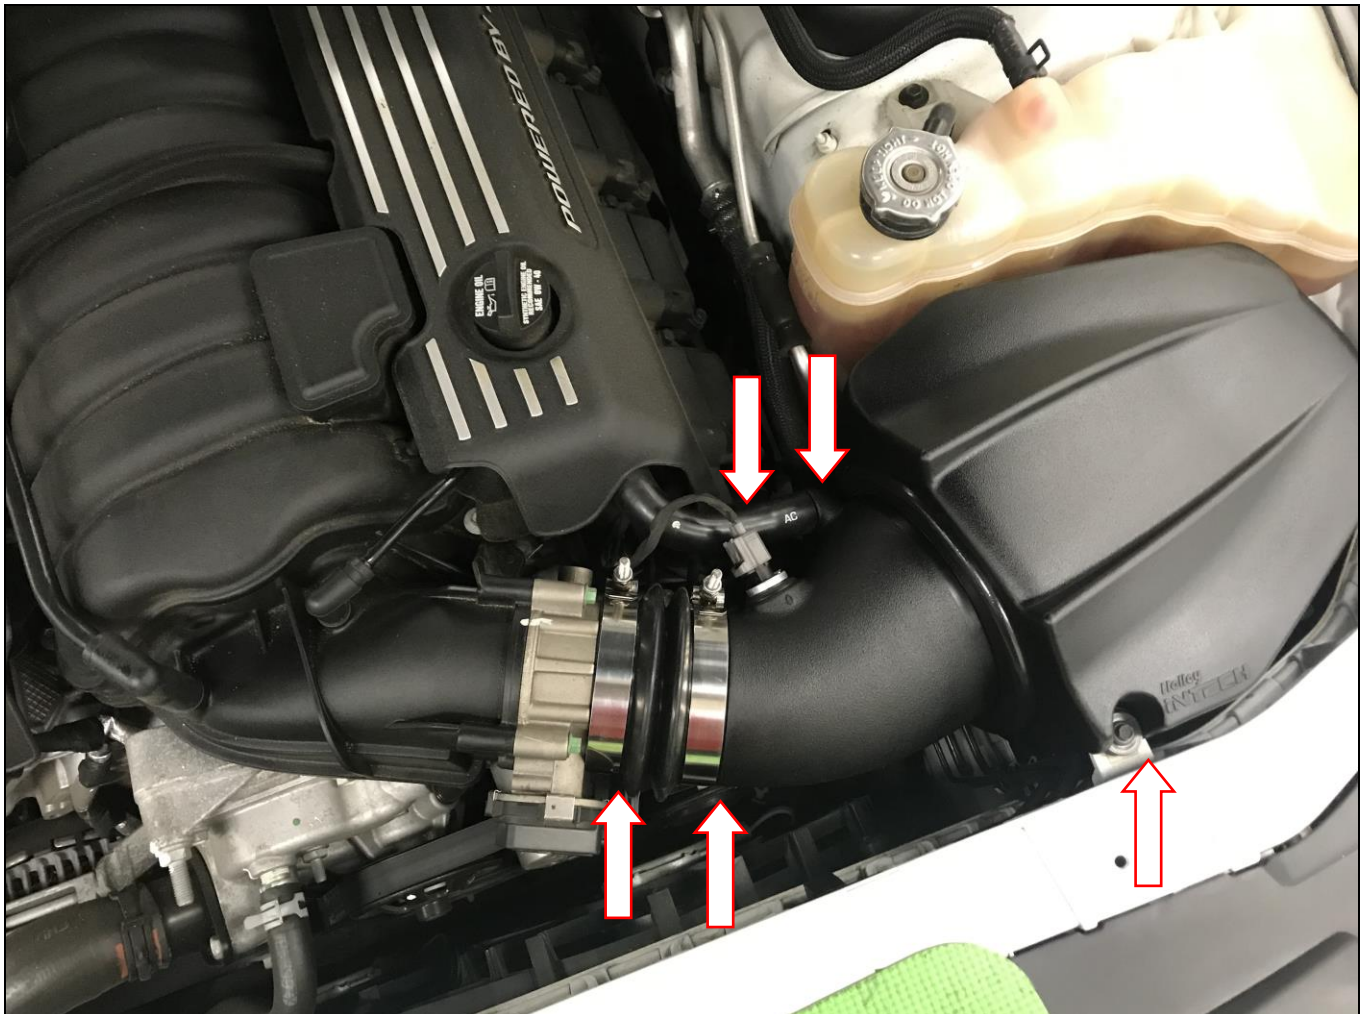

Figure 2
7. Transfer the rubber grommet from the bottom of the factory housing to the bottom of the iNTECH housing (**Figure 2**).
10. Install the provided silicone block-off plug into the front opening to keep out hot engine air. **(Figure 2)**. *****This opening is for use of the optional headlight air duct (Sold Separately P/N 223-12-1) on 2015 and up model years.**
11. Install the supplied rubber grommet and aluminum air temp sensor fitting into the iNTECH tube **(Figure 2)**.
16. Install the intake tube into the air filter until you feel a “lock” **(Figure 2)**.
19. Reconnect the CCV hose and temp sensor plug to the intake tube **(Figure 2)**.